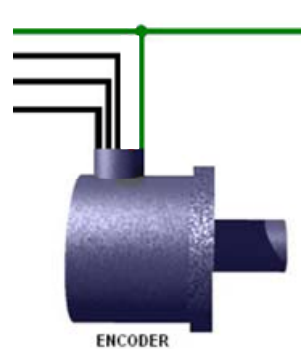

Figure 18. Connections from single encoder to DSUB37 pins on the RedLab-1616HS-BNC
**Wiring to one encoder:** Figure 18 shows the connections for one encoder to a RedLab-1616HS-BNC module.